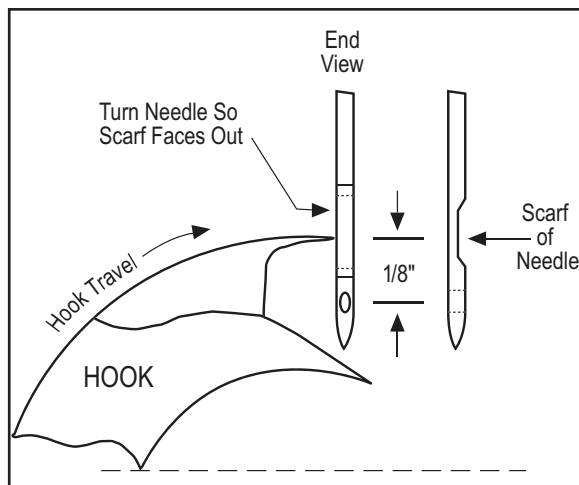

Figure 2
5. Reverse needle 180° so scarf faces out (See Figure 2). Tilt machine so that it is at an angle so you can see the shuttle area. as you turn the handwheel counterclockwise, the hook will travel clockwise; reverse rotation and travel counterclockwise to a position where the point of the hook is approximately 1/8" behind the needle and reverse the rotation again. When the point of the hook is just in line with the back side of the needle, the point of the hook should be in the center of the scarf (approximately 1/8" above the center of the eye of the needle).